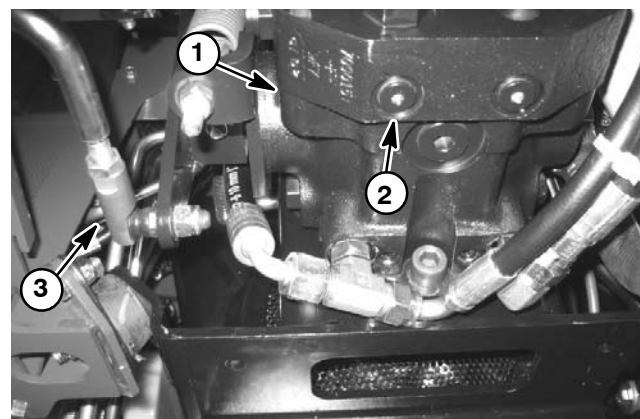

Figure 20
6. Remove plug from forward traction port on bottom of hydrostat (Fig. 20). Install pressure gauge to test port.